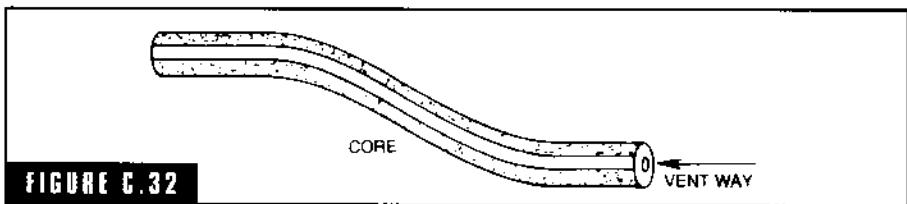

FIGURE C.32
**core vent wax** A specially formulated wax used to vent dry sand cores (Fig. C-32). The wax is rammed in place during the coremaking and melts during the baking of the core, leaving a clean hole or vent in its place. It is sold in spools in sizes from  $\frac{1}{2}$  to  $\frac{1}{8}$  round solid, from  $\frac{1}{8}$  to  $\frac{1}{4}$  round hollow, and  $\frac{1}{2} \times \frac{1}{8}$  to  $\frac{1}{4} \times \frac{3}{8}$  flat oval.